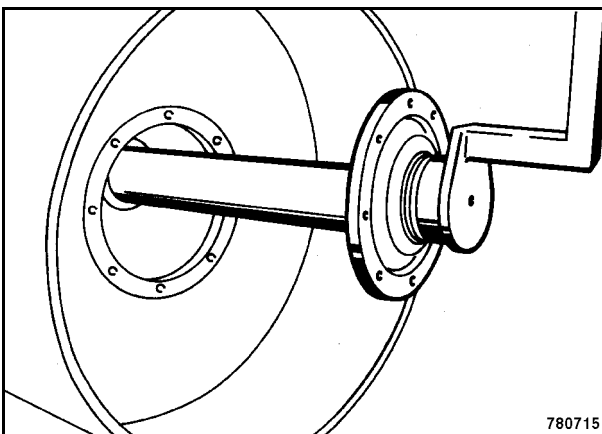

Fig. 12
20. Pull the exciter shaft (Fig. 12) out of the drum with a special tool.